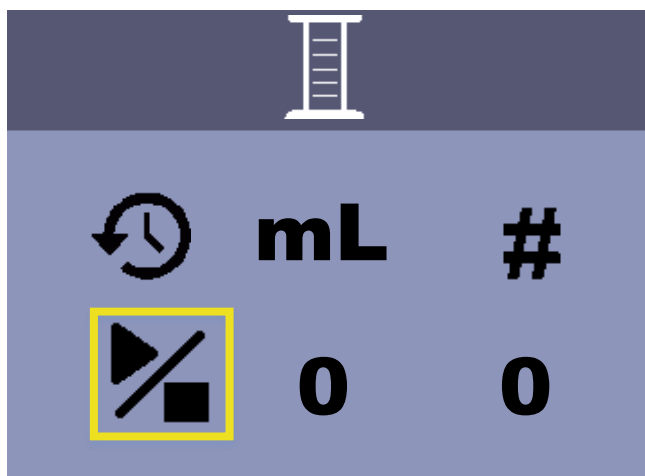

Figure 19: Pump Calibration (Set Flow Rate)
- a. From the Home Screen and the pump stopped, press the **Menu Button** and then the **Right Button** twice to select the  **Calibration Icon**. Press the **Enter Button** to enter the Calibration Screen (Figure 19).